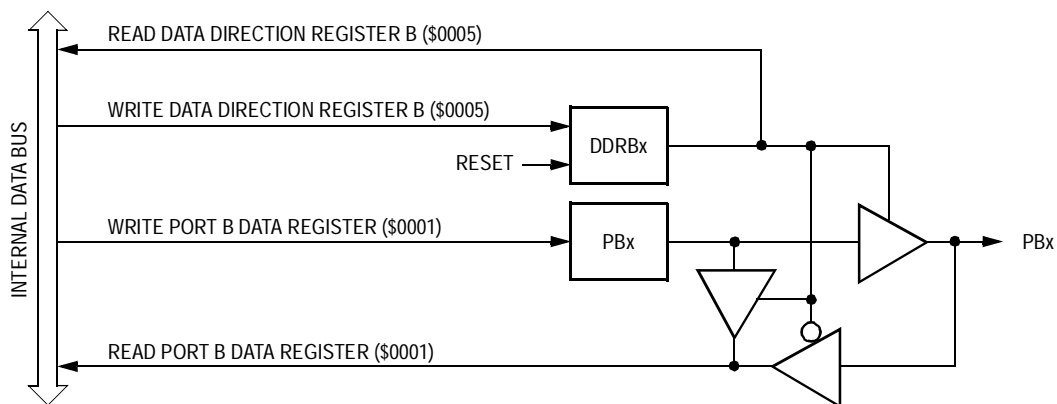

Figure 7-7. Port B I/O Logic
**Figure 7-7** shows the I/O logic of port B.